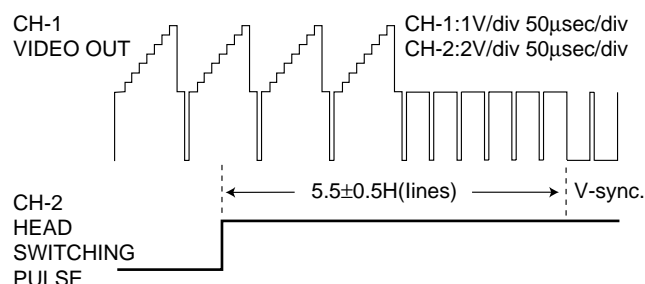

Figure 2-1.
3. Press the PLAY button of remote control to make the adjustment of head switching point, then the leading edge of the head switching pulse is automatically set 5.5H (lines) ahead of the vertical sync as shown Figure 2-1 and the adjustment data is memorized in the E²P-ROM IC.